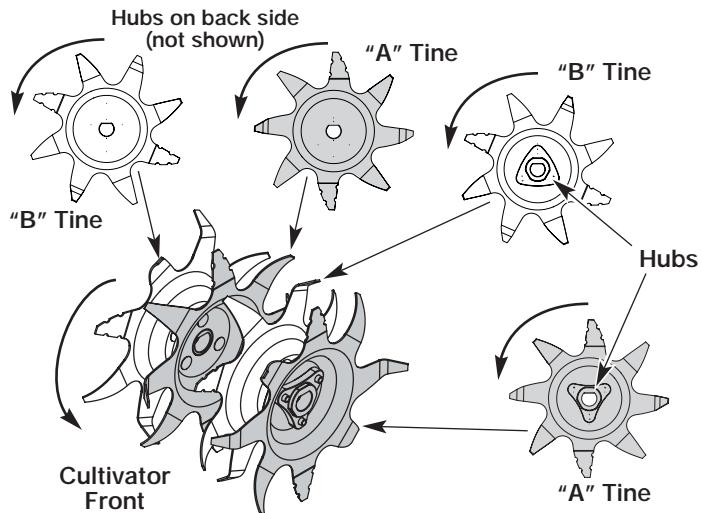

Fig. 12b
4. When you are reinstalling tines, lay out the tines and compare them to those shown in Figure 12b. Note specifics about each tine: its hub, curvature and lettering ("A" or "B"). This will help make sure that you are placing the correct tines in the correct order.
**NOTE:** If you look closely, you can see a slight curvature in the tine tips. These curves should point toward the front of the cultivator when the tines are installed. Figure 12b shows the curve in each tine.